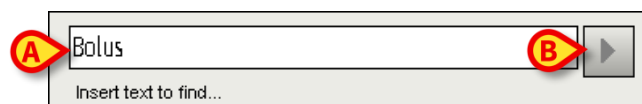

Fig 33
- Insert in the window the text to be found in the print report (Fig 33 **A**).
- Click the  button (Fig 33 **B**).